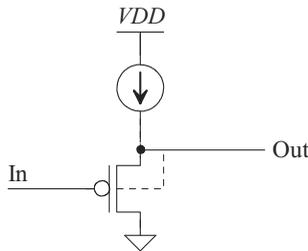

Figure 21.60 Gain of an SF with and without body effect for Problem 21.11.
- 21.11** Show, using SPICE simulations and an ideal current source of 10 μA (device size from Table 9.2), the difference in the voltage gains with and without body effect for the circuit seen in Fig. 21.60.